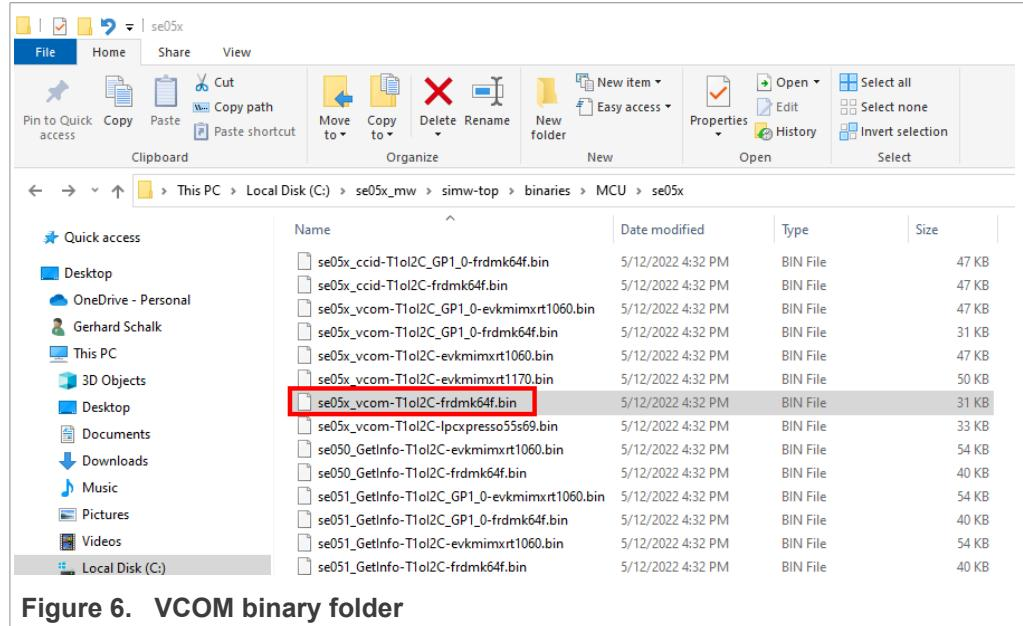

Figure 6. VCOM binary folder
3. Flash the VCOM software to FRDM-K64F. The VCOM software binary can be found in the Plug & Trust middleware package, inside the `simw-top\binaries` folder as shown in Figure 6: